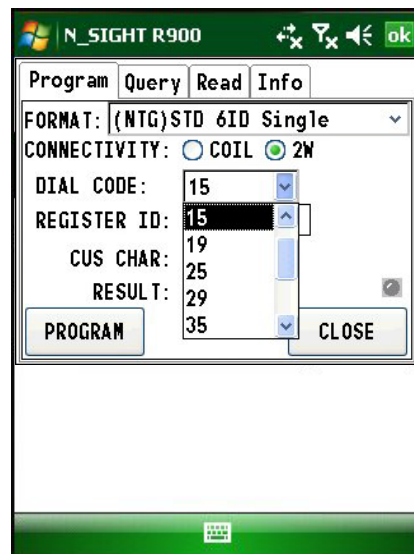

Figure 9.8 Otr Selection List
- **otr** – to choose another value from a selection list. See Figure 9.8. (To return to the screen from this list, select **None**.)